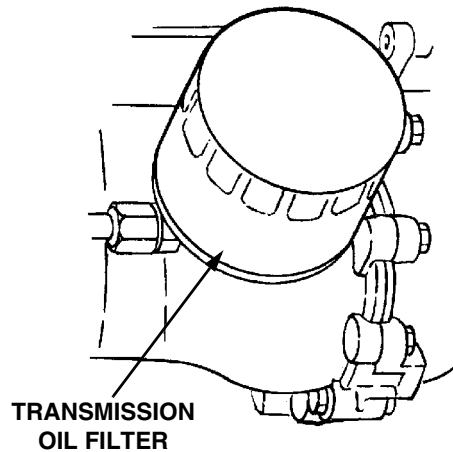

Figure 22
- Clean around the base of the transmission oil filter and remove the filter by turning it counterclockwise (Refer to Figure 22).